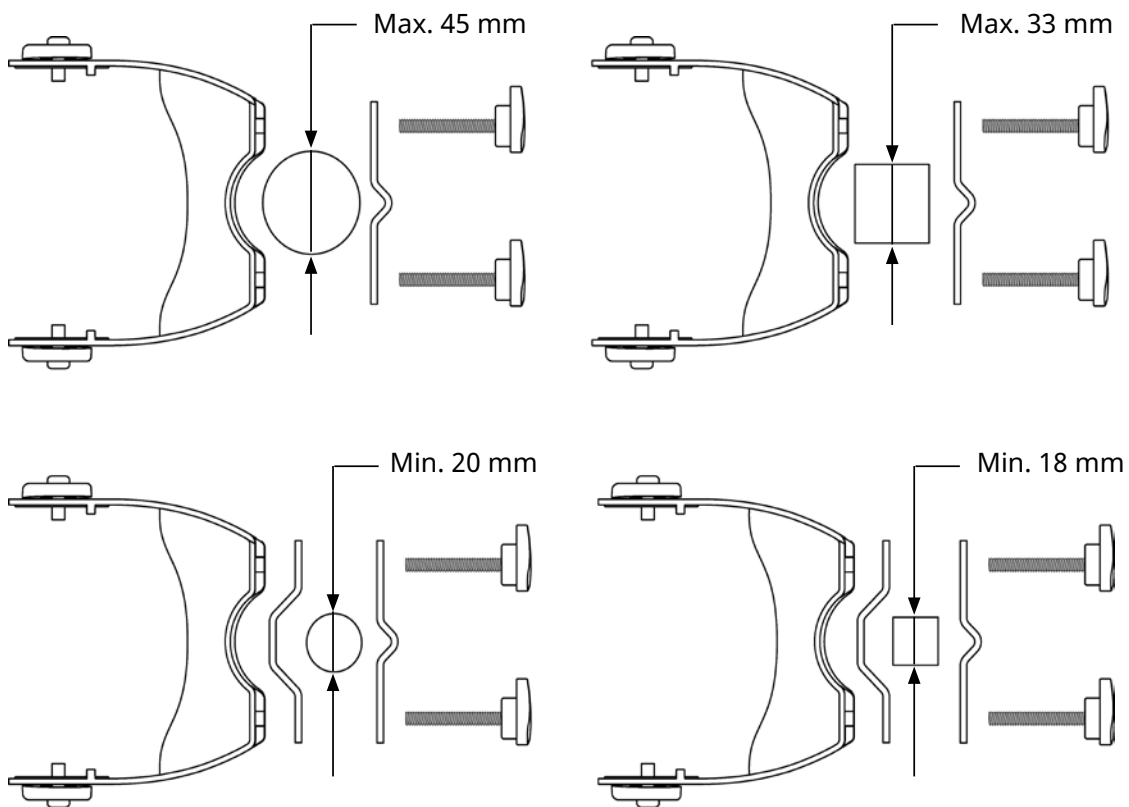

Fig.8: INSP
The heater can be fastened to a post or to the ribs of a parasol with the parasol clamp INSP (accessory). The clamp can be fixed on a round post/rib of diameter 20-45 mm, or a square one with sides of 18-33 mm. Ensure that the post is stable and solid before fixing the unit. The mounting options are shown in fig.8.
1. Check if the inner clamp is needed, see fig. 8.